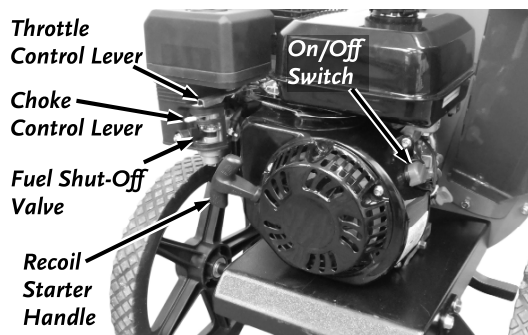

Figure 9a Manual Start
3. Move the Fuel Shut-Off Valve fully to the right to its OPEN position (**Figure 9a and 9b**).
6. **Manual Start** –Turn the On/Off Switch to the “On” position (**Figure 9a**). Grasp the Recoil Starter Handle and slowly pull until you feel resistance, then pull the cord with a smooth accelerating motion to start the engine. One or two pulls usually starts the DR Chipper Shredder.